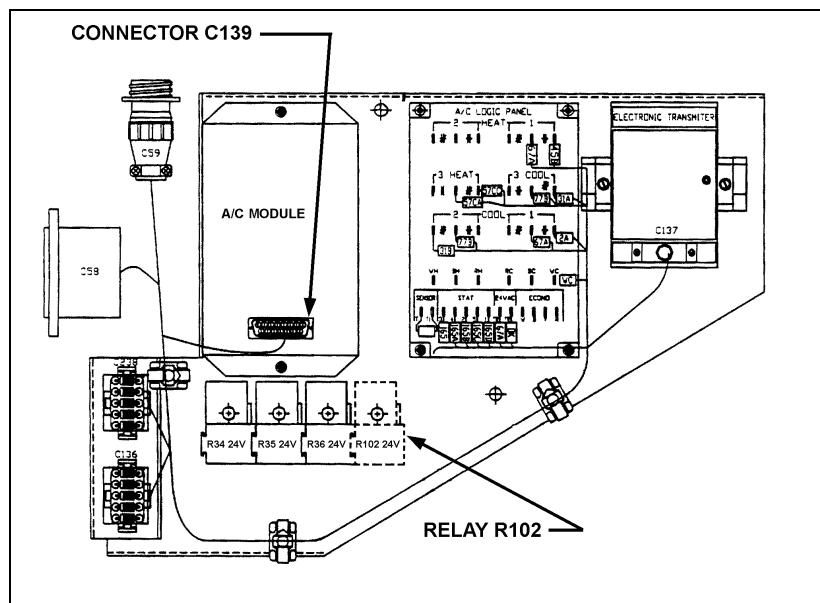

FIGURE 8 : REAR ELECTRICAL COMPARTMENT A/C JUNCTION PANEL
Note : Verify in rear electrical compartment if relay R102 was installed (refer to fig. 8), if so, complete procedure for vehicles serial numbers comprised between W-2204 and W-2284. If relay was not installed, go on with the present procedure.
2. From inside rear electrical compartment, disconnect C139 connector from A/C module (refer to fig. 8). Connect cable assembly (Prévost #064750) C139M connector with A/C module and C139 connector with connector just disconnected from module. Refer to wiring diagram D060882 P. 13.1 Rev. 07.